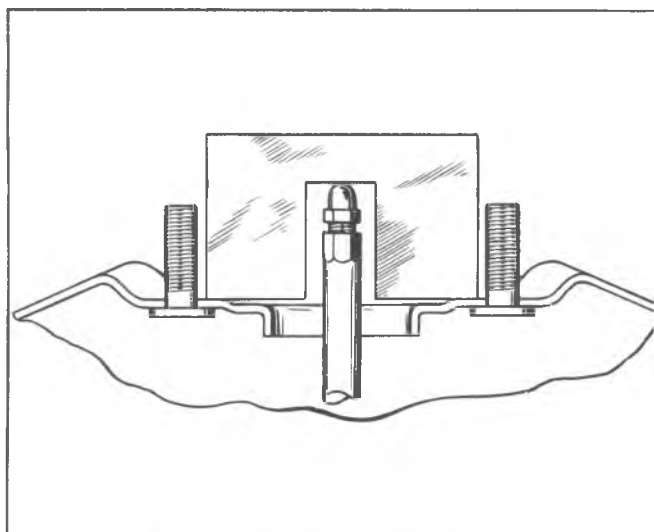

Fig. 11D--Adjustment of Piston Rod
1. Place top of Piston Rod Height Gauge J-21183 (Corvette) over piston rod with legs of gauge resting on front housing as in Figure 11D. Top of screw should touch gauge.